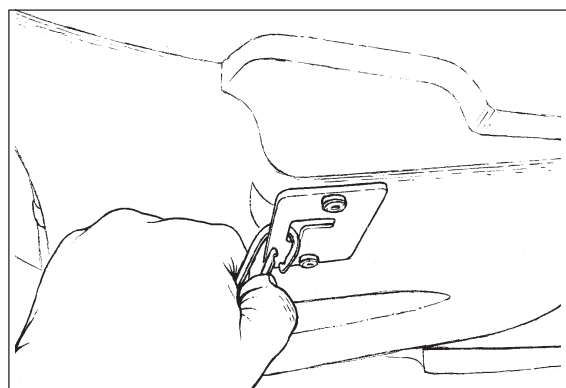

Figure 10
6. Unhook the tether clip from the recovery tank (See Figure 10).
13. Reattach the tether to the recovery tank (See figure 10).